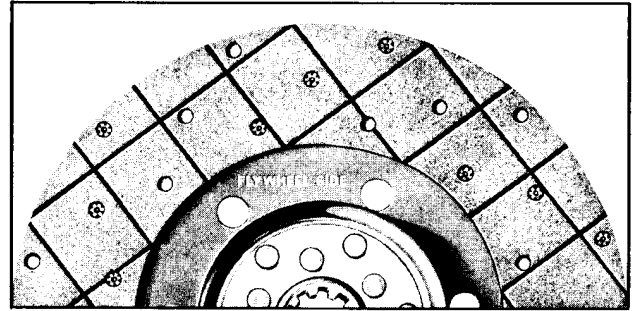

Figure 9—Clutch Disc Identification Marking
2. Install pilot bearing (40) in flywheel (7), then install flywheel on crankshaft with holes for bolts (39) aligned. Place bearing retainer (3) at flywheel and install flywheel bolts. Tighten bolts evenly to 150 to 160 foot-pounds torque.
3. Refer to figure 9 and place clutch disc marked "Flywheel Side" at flywheel.